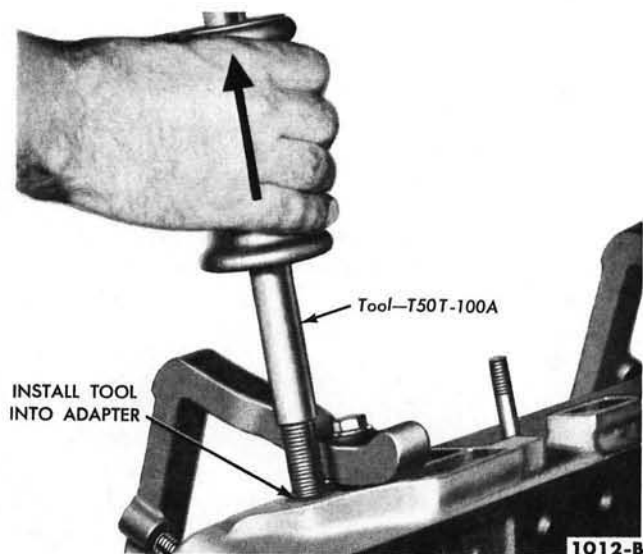

FIG. 31—Sending Unit Adapter Removal
**Sending Unit Adapter — 292 Engine.** To remove the adapter, thread the impact hammer handle into the adapter, then tighten the lock nut against the adapter (Fig. 31). Remove the adapter by using the slide hammer.